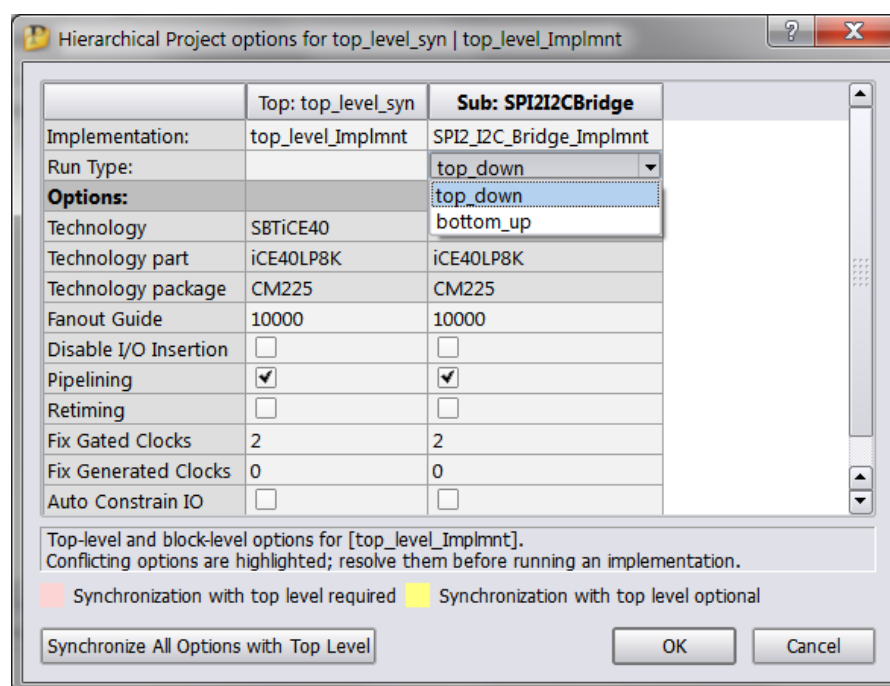

Figure 9-11: Set Hierarchical Project Options
2. In the “Hierarchical Project Options”, specify the Sub-Project Implementation and set run type as “top_down” as shown in Figure 9-11. Click on the “Synchronize All Options with Top Level” icon to synchronize Sub-Project options with top-level project options.